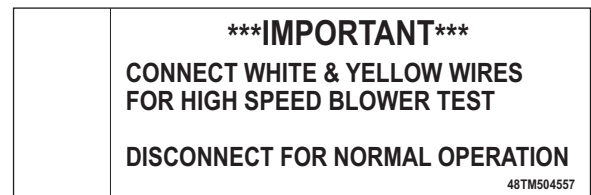

Fig. 24 — High Speed Test Label
4. Locate and connect the WHT and YEL wires extending from the VFD. The two wires are bundled together using the label shown in Fig. 24.